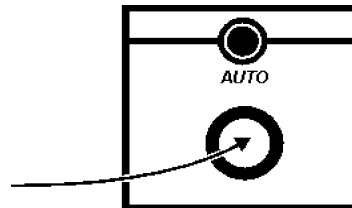
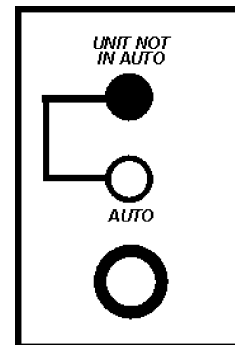

Figure 36. Auto Switch (Button)
Figure 37. Auto Switch LED (AUTO)
4. Press the Auto switch (Figure 36). Observe that the Auto LED Illuminates (Figure 37).